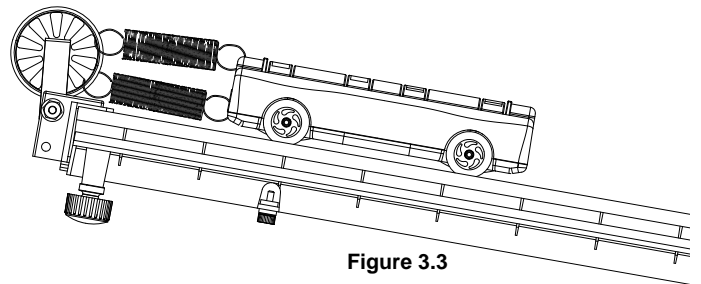

Figure 3.3
- Put the two springs in parallel as shown in Figure 3.3 and repeat step 5.